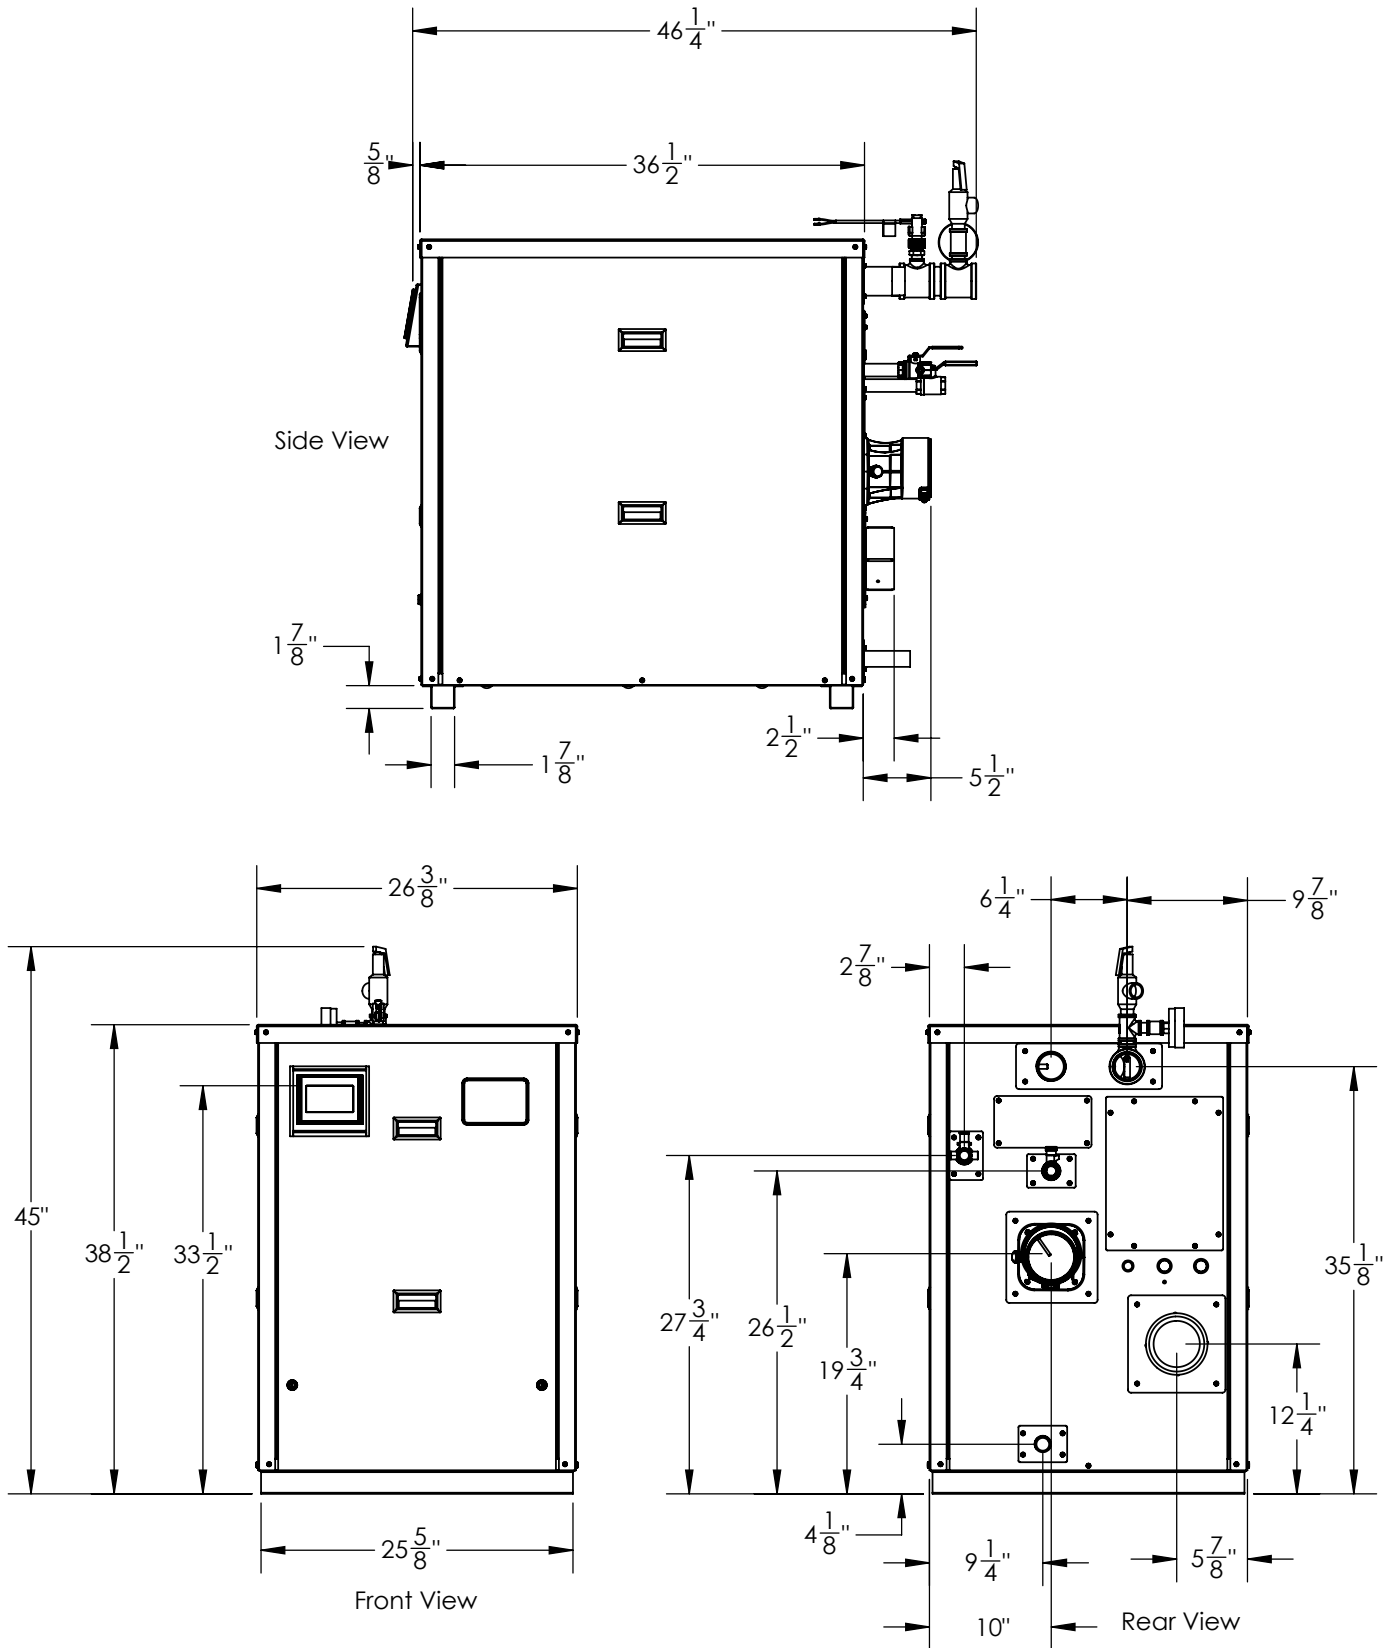
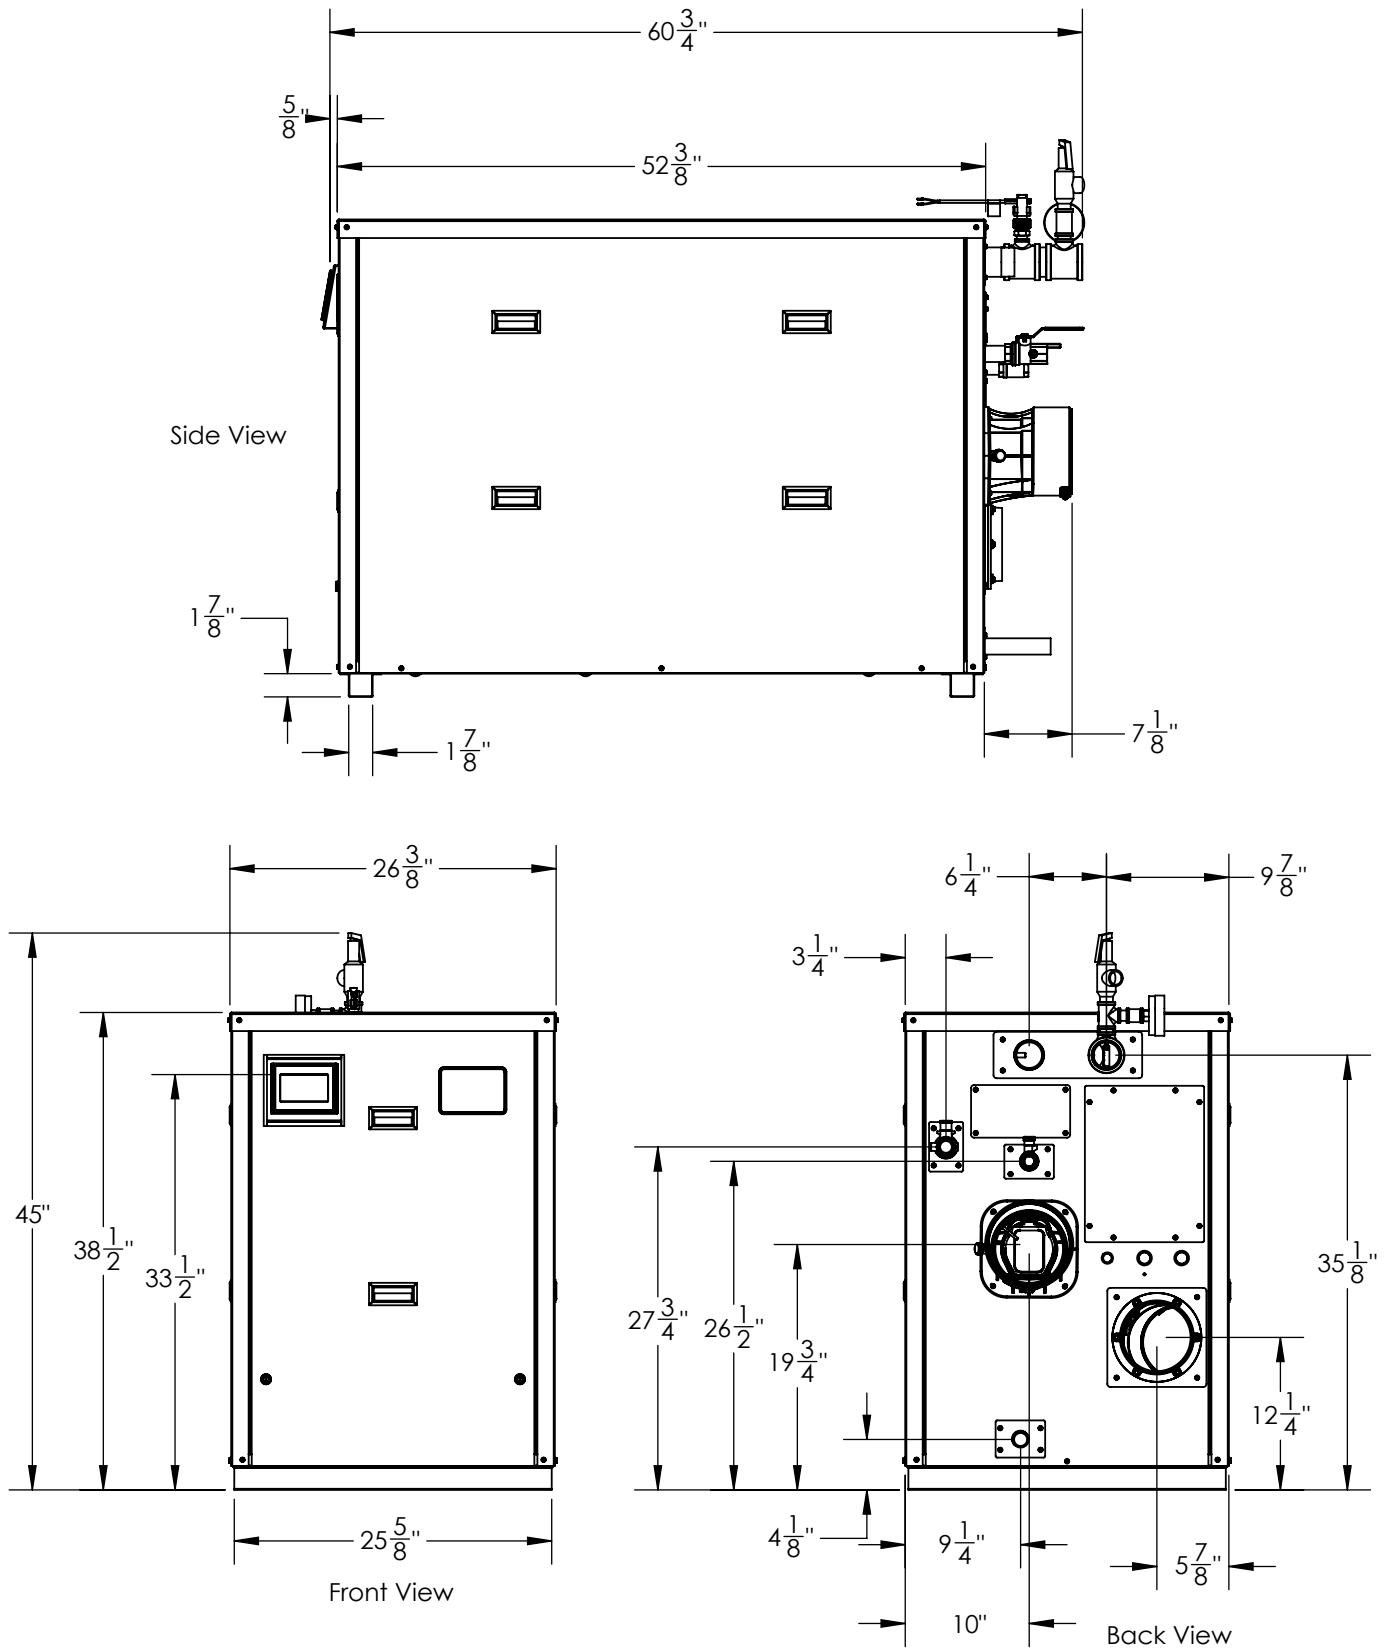

Figure 1: BFIT 400-500 Dimensions
Figure 2: BFIT 650-1000L Dimensions
6. Ensure the included polypropylene vent adapter is installed in the proper orientation. The clamp screw faces down, and the test port faces right (Gas train side). See Figure 1 and Figure 2.